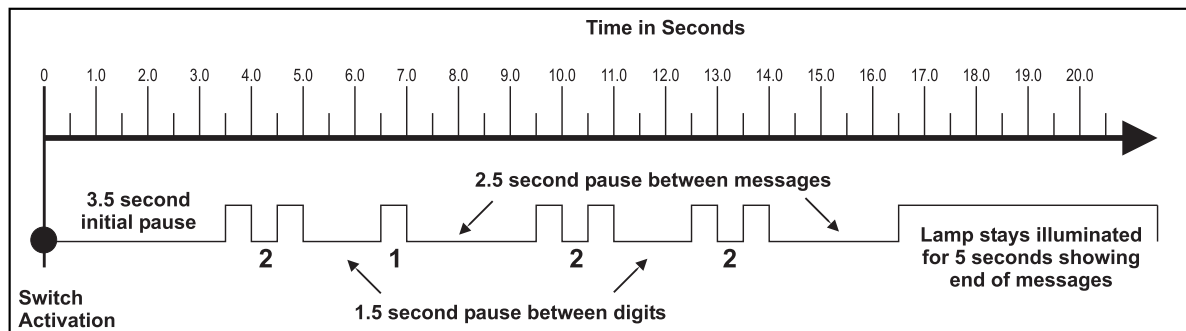

FIGURE 10 - EXAMPLE OF BLINK CODE MESSAGE
4. After a pause of 3.5 seconds, the ECU will begin responding with output information blinks. See Figure 10 for an example.